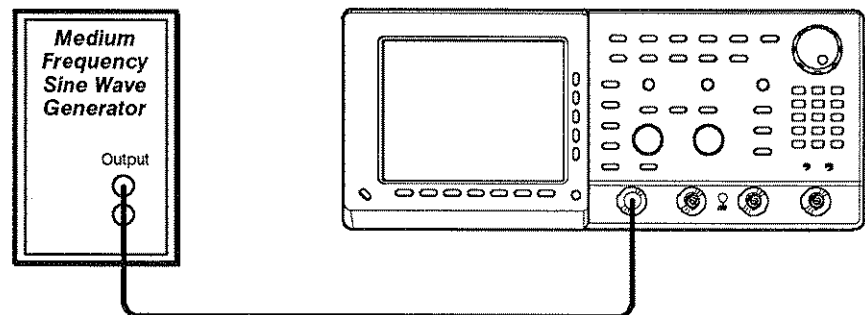

Figure A-18: Initial Test Hookup — TDS 520 Only
- TDS 520 only: Connect, through a 50 Ω precision coaxial cable, the signal output of a medium-frequency sine wave generator to **CH 1**. See Figure A-18.